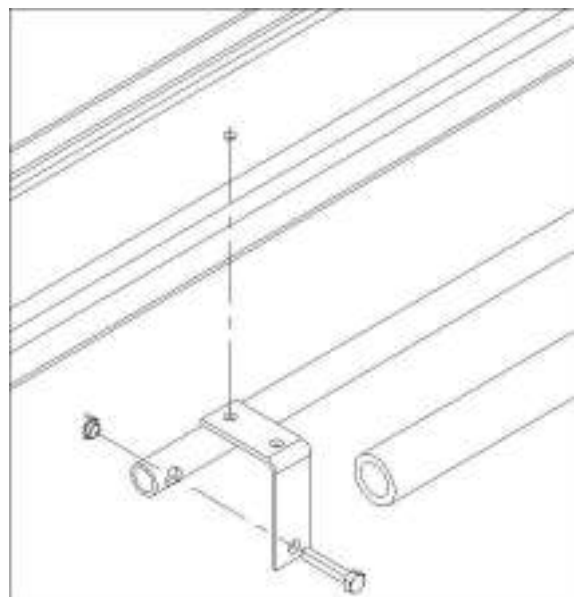
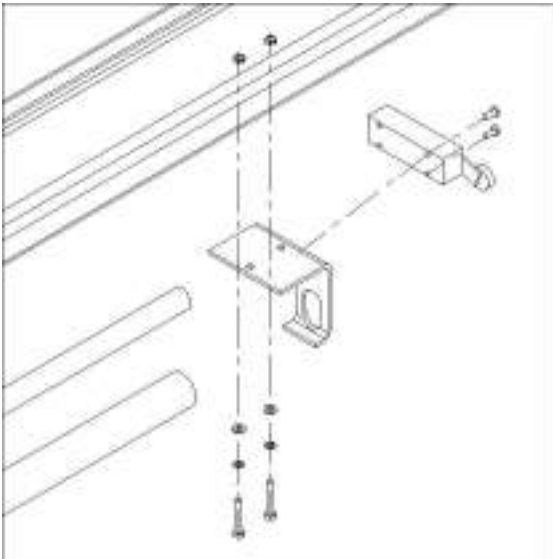

Fig. 35
Fig. 36
- ◆ Install the safety bar according to fig.35 and fig.36.
4.4.3.4 Close the cover of the electric box, turn the main switch to position 1, press the up push button (Fig. 36), the motor rotation direction should be the one shown by the arrow on the pump.
The lift Commands (control devices) is shown as *Fig. 36*.